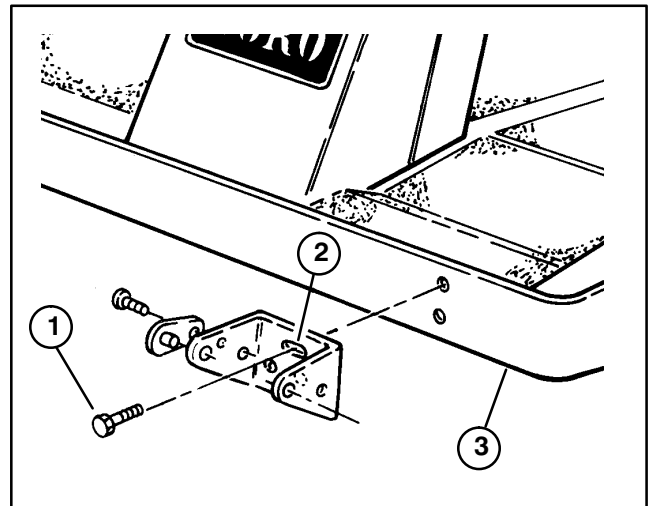

Figure 11
3. To install the mounting brackets, insert (2) 3/8-16 x 1" lg. flangehead capscrews through the slotted bracket holes. Thread the screws into the captivated frame nuts and torque to 45-50 ft-lb (Fig. 11).